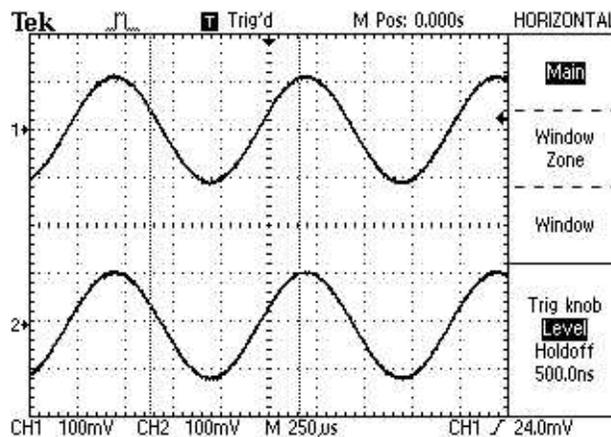

Figure 3
- Using the buttons on the right side of the LCD screen, choose:(see figure 3)
- Adjust **SEC/DIV** for 250 us (see Figure 3)